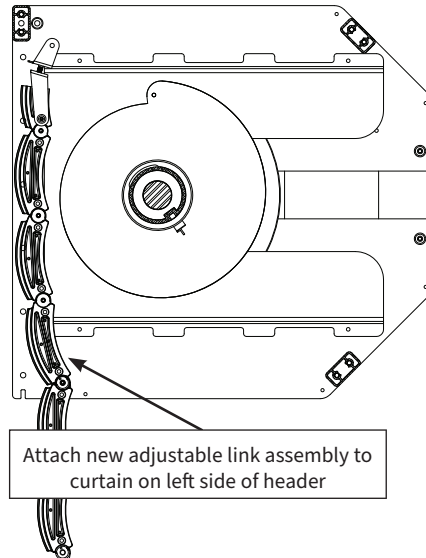

Figure 13: Top Link of Curtain, Right Side of Header
- 1 Referring to (Figure 13), use the hole drilled through header in last step to attach the new adjustable link assembly to the top link of the curtain on the left side of the header. Use a 5/16" x 3/4" shoulder screw 41A1056 to join the links. Shoulder screw must be greased with a silicone lubricant.